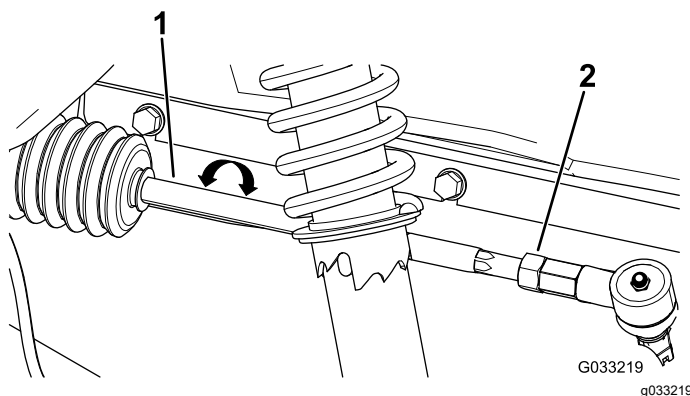

Figure 47
2. If the measurement does not fall within 0 to 6 mm (0 to 1/4 inch), loosen the jam nuts at the outer end of the tie rods (Figure 47).